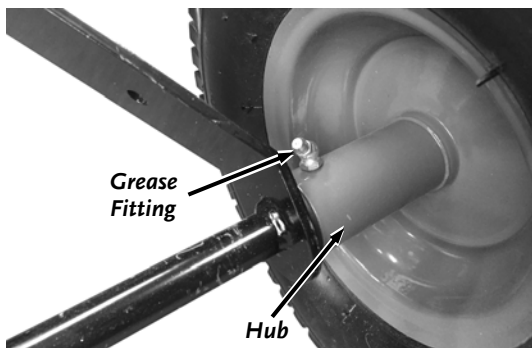

Figure 6
8. Grease the Grease Fittings on the Wheel Hubs with a Grease Gun just until Grease starts coming out of the Hub (**Figure 6**).